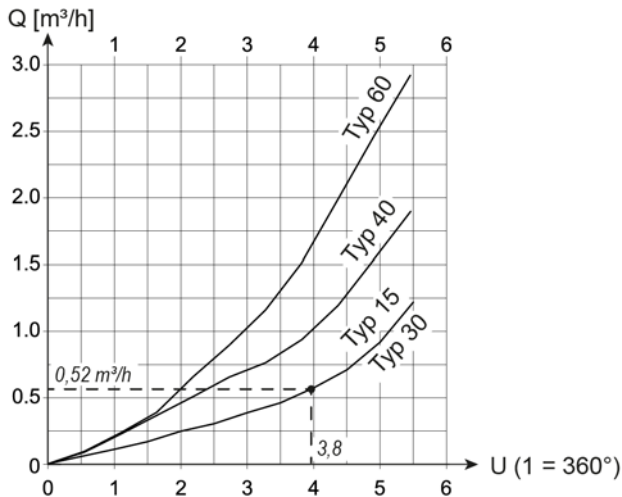

Fig. 7-1: Type 15-60
Determine the required number of rotations from the adjusting diagram (see Fig. 7-1: "Type 15-60").
- It is evident from the "adjusting diagram" (see graphic Fig. 7-1: "Type 15-60") that for 0.46 m³/h the restrictor for heat transfer station type 15 must be opened by **3.5 rotations**.